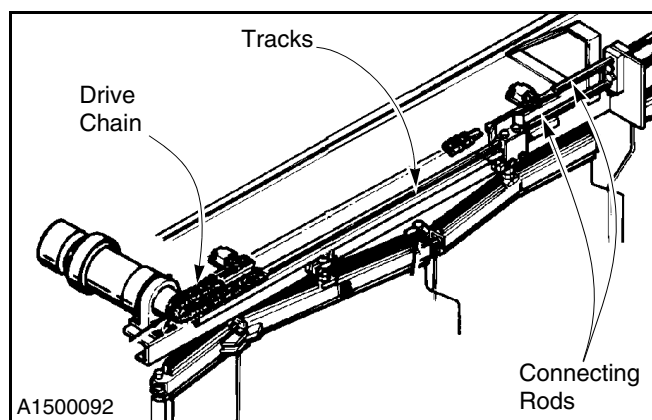

Figure 21
2. **Drive Chain:** Lubricate the drive chain with a good-quality grade of heavy lubricating oil. (See Figure 21.)
3. **Connecting Rods and Tracks:** Lubricate the connecting rods and tracks with a medium-viscosity, low-torque grease having an approved temperature rating of -30° to $+200^{\circ}\text{F}$. (See Figure 21.)